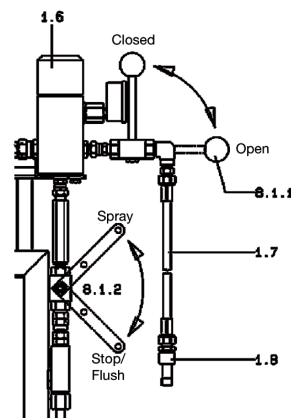

Figure 5.3.1
- 1 attachment kit for the volumetric measuring unit, (Fig. 5.3.1, Pos. 1.8), **WIWA**® order-no.: 0643212
- Set the lever (standard mixer: Fig. 5.3.1, Pos. 8.1.2 / external mixer: Chapt. 3, Pos. 8.2.2) to "STOP / FLUSH". Set the lever (standard mixer: Fig. 5.3.1, Pos. 8.1.1 / external mixer: Chapt. 3, Pos. 8.2.1) to "OPEN / Return flow open".
- Reduce the pressure by the compressed air regulator (chapt. 3, Pos. 1.5.2) Set the lever (standard mixer: Fig. 5.3.1, Pos. 8.1.1 / external mixer: Chapt. 3, Pos. 8.2.1) to "CLOSED / Return flow closed".
- Disconnect the return flow hoses (Fig. 5.3.1, Pos. 1.7) from the material containers **A+B**.
- Assemble one double nipple and one valve (attachment kit for volumetric measuring unit) each to each return flow hose (Fig. 5.3.1).
- Set the lever (standard mixer: Fig. 5.3.1, Pos. 8.1.1 / external mixer chapt. 3, Pos. 8.2.1) to "OPEN / Return flow open".
- Set the compressed air regulator (chapt. 3, Pos. 1.5.2) on the service unit to such a pressure, that material runs out of the valves of the volumetric measuring unit into the containers. Check the reading of the pressure gauges for the high pressure filters (Fig. 5.3.1, Pos. 1.6).
- Set the lever (standard mixer: Fig. 5.3.1, Pos. 8.1.1 / external mixer chapt. 3, Pos. 8.2.1) to "CLOSED / Return flow closed".
- Set the lever (standard mixer: Fig. 5.3.1, Pos. 8.1.2 / external mixer: Chapt. 3, Pos. 8.2.2) to "SPRAY".
- Set the lever (standard mixer: Fig. 5.3.1, Pos. 8.1.1 / external mixer: Chapt. 3, Pos. 8.2.1) to "CLOSED / Return flow closed".
- Set the lever (standard mixer: Fig. 5.3.1, Pos. 8.1.2 / external mixer: Chapt. 3, Pos. 8.2.2) to "STOP / FLUSH".
- Disconnect the double nipples and the valves from each of the return flow hoses (Fig. 5.3.1, Pos. 1.7).